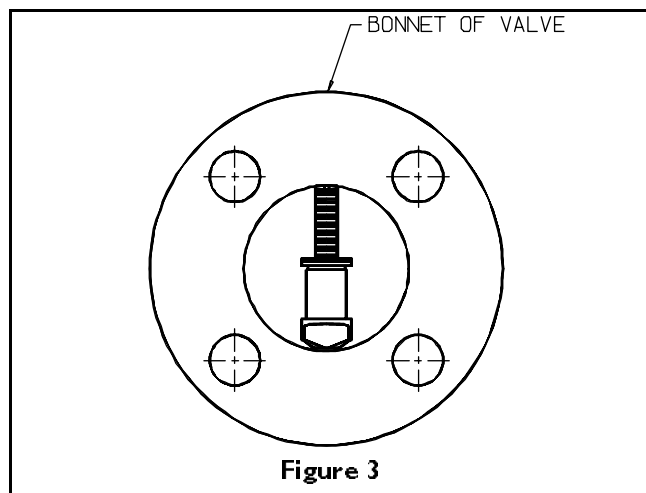

Figure 3
d.) Roll the entire valve on its flanges until the bonnet faces up. Then rotate the stem a 1/4 turn. The stem subassembly should now look like Figure 3 (p. 5) as seen from the insert end of the valve.
e.) Press the seals (7) and (24), or (8), up into the lower stem bore.
f.) From the outside, insert the upper stem seal (8).
g.) Press the stem (4) up into the stem bore until resistance is felt from the lower stem seal. Go on to Step 3.